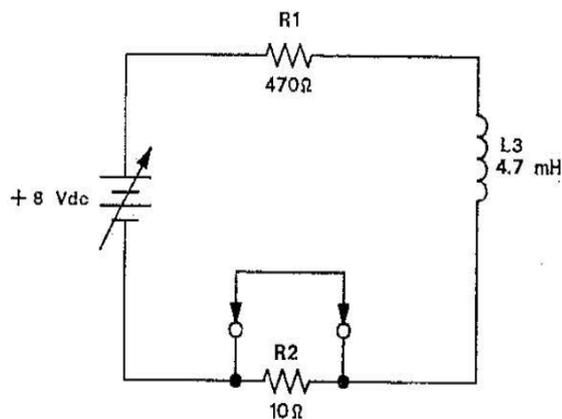

Figure 2-1: Series RL Circuit (dc)
2. Connect the circuit shown in Figure 2-1 on the **INDUCTANCE/INDUCTIVE REACTANCE** circuit block (be sure to short out current sensing resistor R2 with a two-post connector). Turn on the power source and adjust the positive variable supply to 8 Vdc.